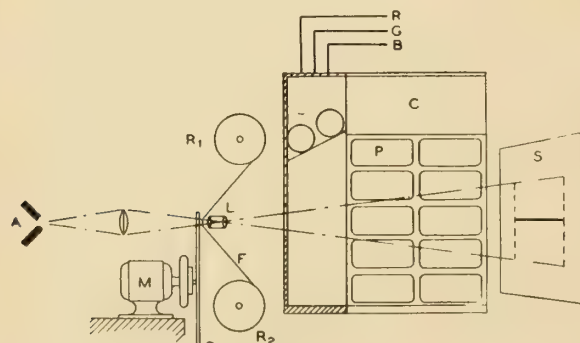
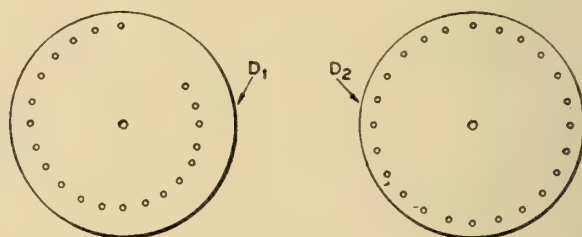
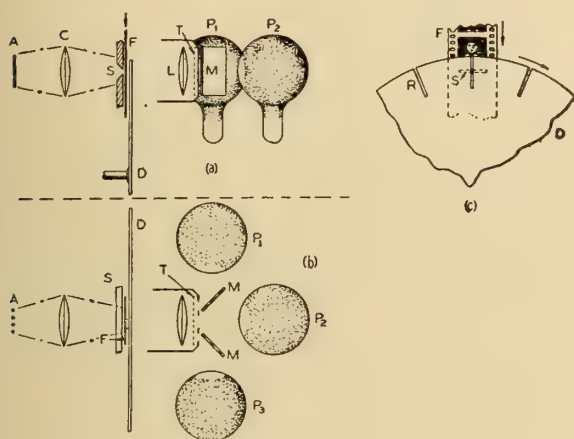
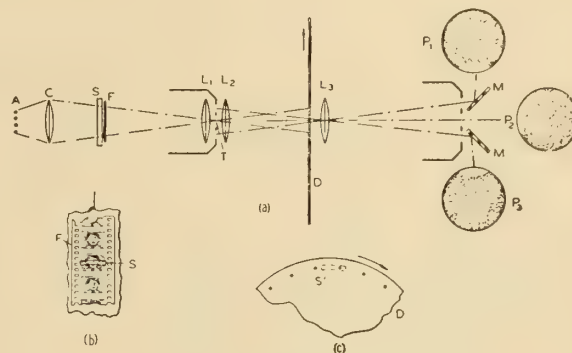

Fig. 1
Fig. 2
Fig. 3
Fig. 4
As an introduction to the method of telecinematography in color using ridged film, it is profitable to outline how the problem could be solved with film in which the colors are incorporated by dyes (e. g., Technicolor), and the three-color transmitting and receiving system recently developed in the Bell Laboratories.¹ This may be done most easily by considering Fig. 1, where the three-color transmitting apparatus is shown in section, with the addition of film handling means. The
If, with the apparatus as just described, the film stands still, with a picture frame exactly filling the field aperture in front of the disk, and the disk rotates at its normal speed for television, the screen S shows a projected image of the film, colored if the film is colored, and capable of being picked up by the photoelectric cells and transmitted, to be received like the image of a colored object by the single disk, three-lamp receiving apparatus, as ordinarily used for this purpose. When the film is moved in order to give a motion picture, there are two alternative forms of scanning disk available, depending on whether the motion of the film is intermittent, as in most cameras and projectors, or continuous. In the first case, a scanning disk must be used with a blank sector corresponding to the period occupied by the shift of the film between frames, as shown in D₁, Fig. 2, and a similar disk must be used at the
receiving end also. The use of intermittent exposures is, however, not only inefficient, because of the waste of line-time during the blank period, but is quite unnecessary when the image is analyzed by successive passages of a scanning aperture across the field. Instead of a disk provided with a spiral of holes it is simpler and better to use a disk with the scanning holes arranged in a circle, as shown at D₂, Fig. 2, and to give the film a uniform and continuous motion along the vertical diameter of the disk. When this is done the screen S shows merely a horizontal strip of light (indicated in Fig. 1 by the solid line) but the usual spirally-perforated disk at the receiving end spreads this out into a complete picture.
The method of using Kodacolor film may be most comprehensively described by saying that the film is to be projected as though for display upon a screen, but that the three beams of light issuing from the projection lens are directed each into a separate photoelectric cell for television transmission. With the details of the apparatus shown in Fig. 1 in mind, the Kodacolor film arrangement is readily grasped from Fig. 3, where the upper view (a) shows the elevation, the middle view (b) the plan, and (c) shows a detail of the scanning disk and film. Starting with the light source A, the light is condensed by the condenser system C on the film F which moves continuously past the slot S and directly behind the disk D. The disk is shown as provided with radial slots R, these together with the fixed slot S forming the scanning holes. After passing through the film and disk the light is projected as if to a screen by the lens L, in front of which is placed, in the regular projector, the set of red, green, and blue filters T. For our purpose both the screen and the filters are dispensed with. After passing through the lens, the light is diverted into three photoelectric cells, P_1 , P_2 , and P_3 , by the mirrors M. These cells are all similar, and need not be color-sensitive. The filters are omitted as obviously unnecessary—color is not needed until the signals are received and recombined at the receiving disk where the same apparatus is used as for the reception of signals from original colored projects.
The arrangement of apparatus shown in Fig. 3 calls for the slot, film, and disk being practically in contact. This condition, which must be met if color fringes are to be avoided, is likely to offer some difficulty, since both are moving at high speed. An alternative arrangement, by which the disk and film are separated, is shown in Fig. 4. Here the symbols are as in Fig. 3, and the apparatus is the same from the lamp A to the film F. The disk is, however, removed to a new position beyond the projection lens L_1 , which is supplemented by a short-focus lens L_2 so that an image of the film F, where it lies over slot S, is projected onto the disk. A third lens L_3 , close to the disk, images the three apertures T onto mirrors M and photoelectric cells P as before. By this means the film image may be placed accurately in the plane of the disk and color fringes
- ³ The disk and film could be similarly separated in the form of apparatus shown in Fig. 1 although the necessity is not so apparent.